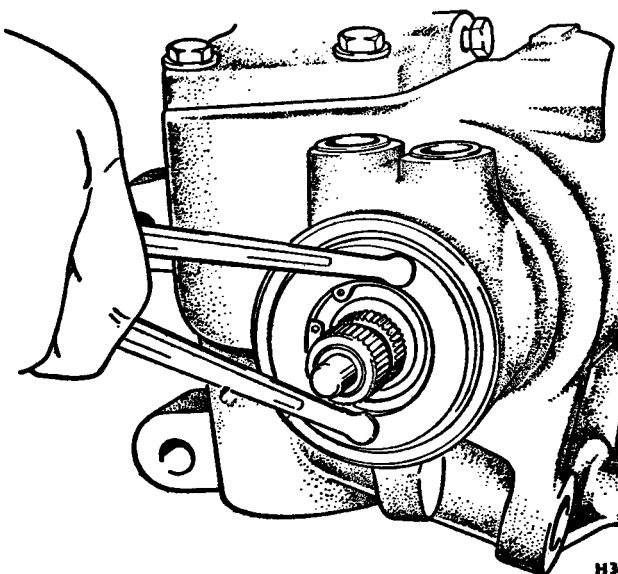

FIG. N25 REMOVING ADJUSTER PLUG ASSEMBLY
16. Unscrew the adjuster plug assembly, using Wrench (RH 7788) (see Fig. N25), and remove the adjuster plug assembly together with the valve assembly by pulling out the stub shaft.